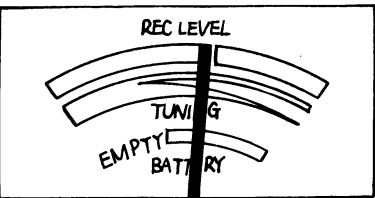

Fig. 9
- Adjust R128 so that the pointer of level meter stays as shown in fig. 9.